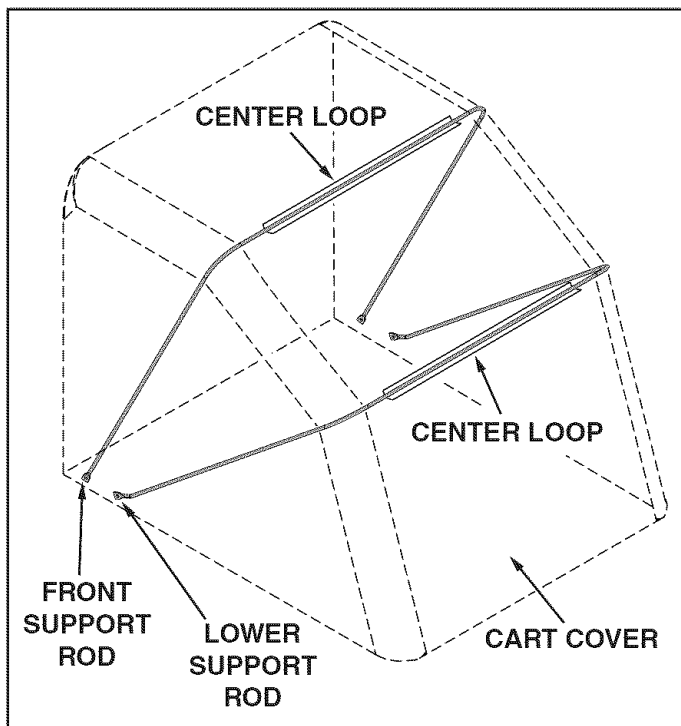

FIGURE 15
- Slide the front (straight) support rod through the center loop (located in the top of the cart cover) closest to the front of the bag. Slide a lower support rod (bent) through the center loop behind the front rod. See figure 15.